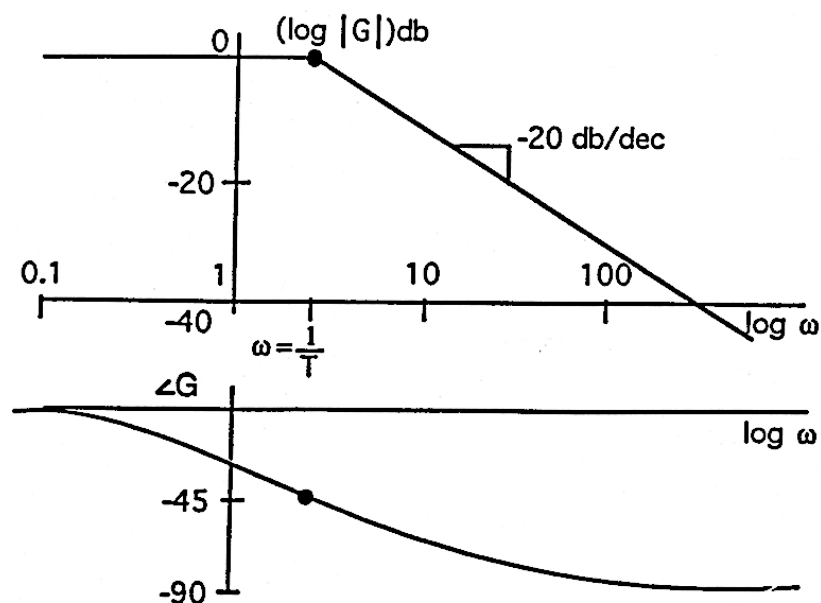
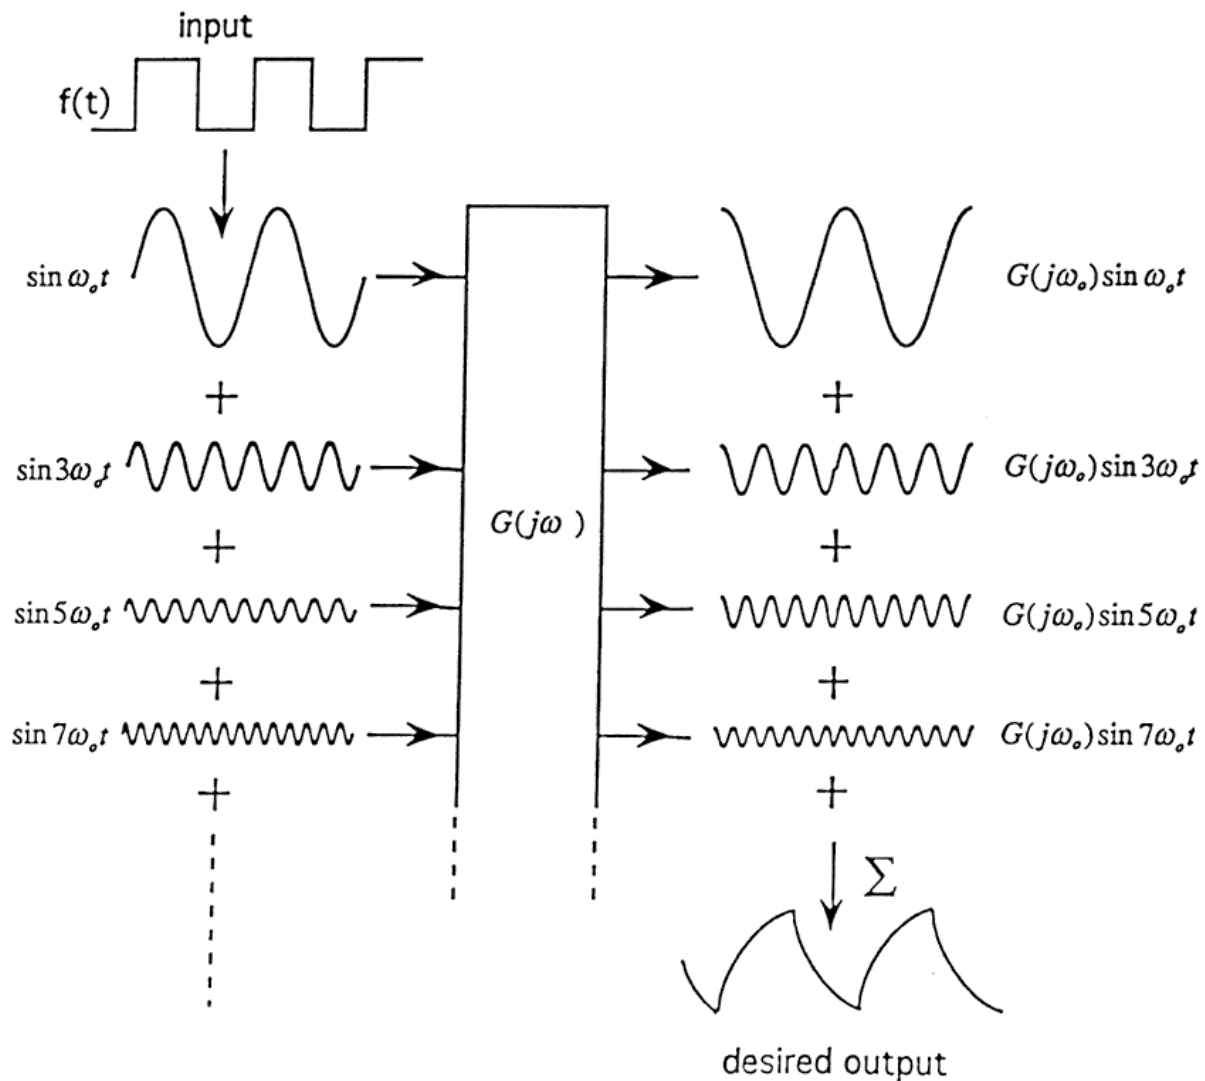
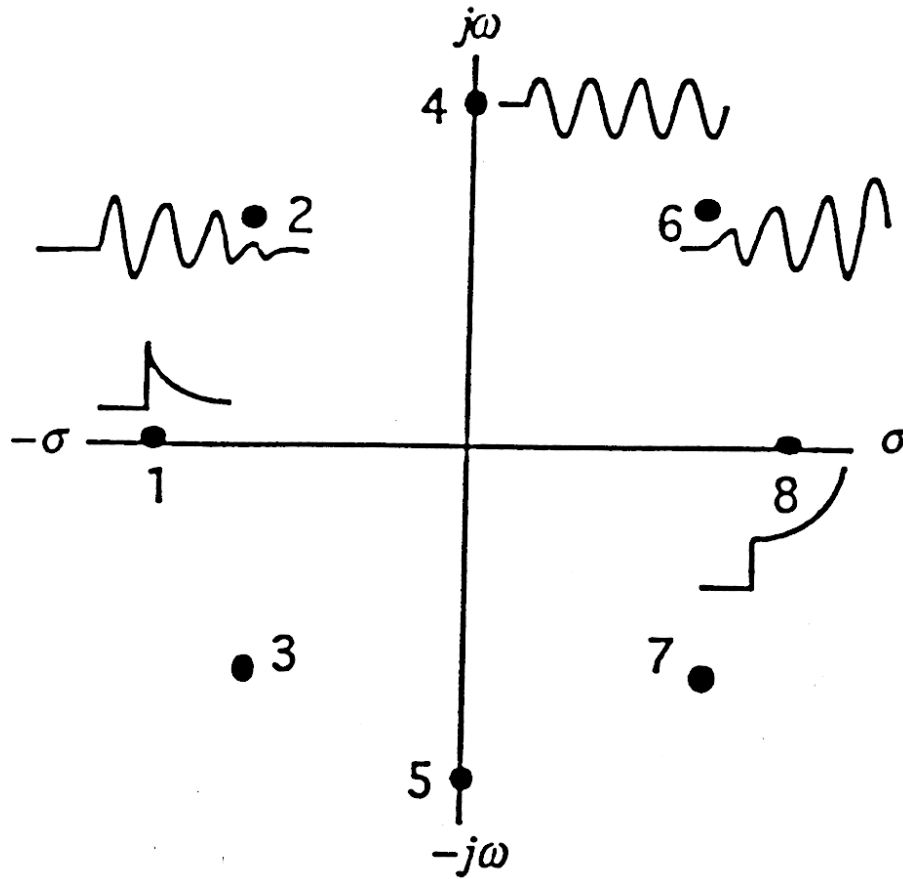

Figure 6
Figure 8
Figure 10
Below this frequency, $\log(|G|)$ can be closely approximated by a horizontal straight line at zero ($\log(1)=0$). At high frequencies, above $\omega = 1/T$, $|G|$ falls off in another straight line with a slope of -20db/dec, which means it falls by 10 (20db) if ω increases by 10. The phase is a linear-log plot. The main point in Fig. 6 is a very simple way to portray what this lag element does to sine wave inputs ($e^{j\omega t}$) of any frequency.
This is illustrated in Fig. 8. The input $f(t)$ (the square wave is only for illustration) is *decomposed* into the sum of a lot of *harmonics* on the left using (9) to find their amplitudes. Each is passed through $G(j\omega)$. $G(jk\omega_0)$ has a *gain* and a *phase shift* which, if $G(j\omega)$ is a first-order lag, can be calculated from (6) and (7) or read off the Bode diagram in Fig. 6. The resulting sinusoids $G(jk\omega_0) \sin k\omega_0 t$ can then all be added up as on the right to produce the final desired output shown at lower right.
Fig. 8 illustrates the basic method of all transforms including Laplace transforms so it is important to understand the concept (if not the details). In different words, $f(t)$ is taken from the *time domain* by the *transform* into the *frequency domain*. There, the *system's transfer function* operates on the frequency components to produce *output components* still in the *frequency domain*. The *inverse transform* assembles those components and *converts* the result back into the *time domain*, which is where you want your answer. Obviously you couldn't do this without *linearity* and *superposition*. For Fourier series, eq (9) is the transform, (8) is the inverse.
One might object that dealing with an infinite sum of sine waves could be tedious. Even with the rule of thumb that the first 10 harmonics is good enough for most purposes, the arithmetic would be daunting. Of course with modern digital computers, the realization would be quite easy. But before computers, the scheme in Fig. 8 was more conceptual than practical.
In terms of Fig. 8, everything is conceptually the same except we now have all possible frequencies - no more harmonics. That sounds even worse, computationally, but if we can express $F(\omega)$ mathematically, the integration in (13) can be performed to get us back into the time domain. Even if it can't, there are now *FFT* computer programs that have a *fast* method of finding the *Fourier transform*, so using this transform in practice is not difficult.
You already know the formulas (2a, 2b), and how to use them. So here we discuss them in terms of Fig. 8 and superposition.
Fig. 10 is a view of the s -plane with its real axis (σ) and imaginary axis ($j\omega$). At point 1, $\omega=0$ and $-\sigma$ is negative so $e^{st}=e^{-\sigma t}$, which is a simple decaying exponential as shown. At points 2 and 3 (we must always consider pairs of complex points - recall from (10) that it took an $e^{j\omega t}$ and an $e^{-j\omega t}$ to get a real $\sin \omega t$ or $\cos \omega t$) we have $-\sigma < 0$ and $\omega \neq 0$, so $e^{-\sigma t} e^{j\omega t}$ is a damped sine wave as shown. At points 4 and 5, $\sigma=0$ so we are back to simple sine waves. At points 6 and 7, $\sigma > 0$ so the exponential is a rising oscillation. At 8, $\sigma > 0$, $\omega=0$ so we have a plain rising exponential. So Fig. 10 shows the variety of waveforms represented by e^{st} .
So (15) says that $f(t)$ is made up by summing an infinite number of infinitesimal wavelets of the forms shown in Fig. 10. $F(s)$ tells you how much of each wavelet e^{st} is needed at each point on the s -plane. That weighting factor is given by the transform
In terms of Fig. 8, $f(t)$ is *decomposed* into an infinite number of wavelets as shown in Fig. 10, each weighted by the complex number $F(s)$. They are then passed through the *transfer function* G which now is no longer $G(j\omega)$ (defined only for sine waves) but $G(s)$ defined for $e^{\sigma t} e^{j\omega t}$. The result of $F(s)G(s)$ which tells you the *amount of e^{st} at each point on the s -plane contained in the output*. Using (15) on $F(s)G(s)$ takes you back to the *time domain* and gives you the *output*. If, for example, the output is $h(t)$ then